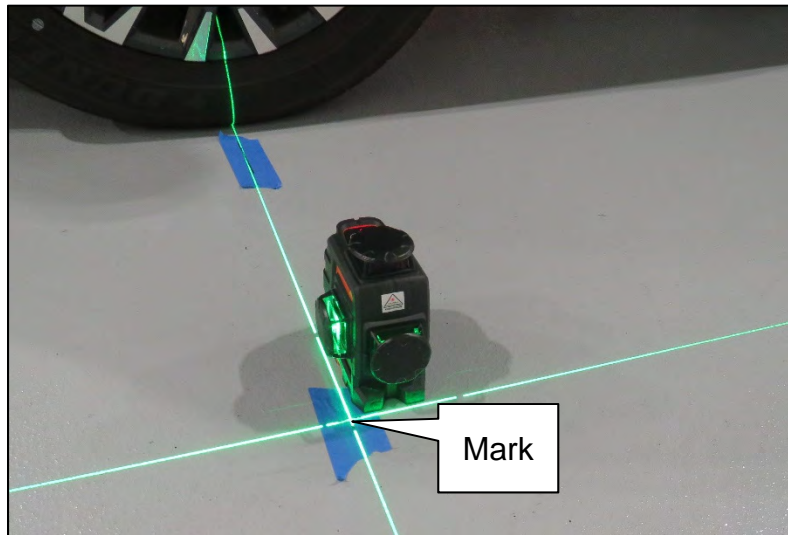

Figure 32
26. Place a mark on the floor below the laser line (Figure 32).